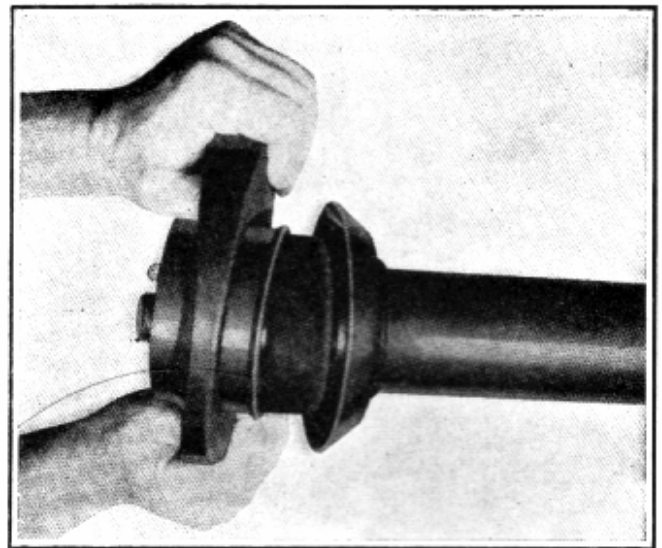

Fig. 51—Installing Bearing Support Bracket
4. Coat the outside surface of the rubber cushion lightly with soft soap and slide the support bracket over the rubber cushion as in Fig. 51.